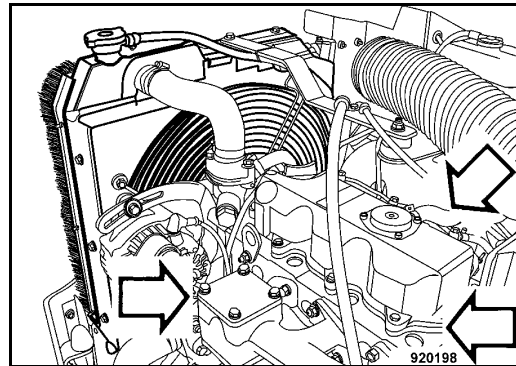

Fig. 165
- Check the fastening of intake and exhaust tubes (Fig. 165) on the cylinder heads for tight fit.